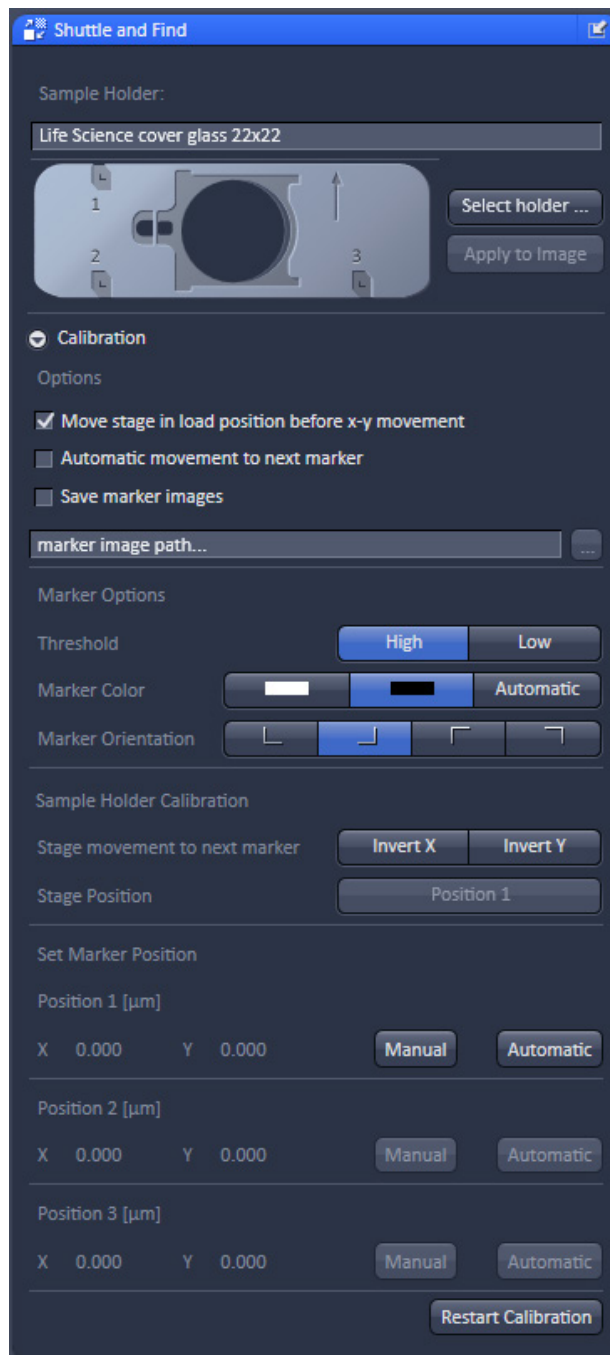

Fig. 178 Shuttle and Find tool
- Select the **Acquire** tab and open the **Shuttle and Find** tool in the **Acquisition Parameter** tool group (Fig. 178).